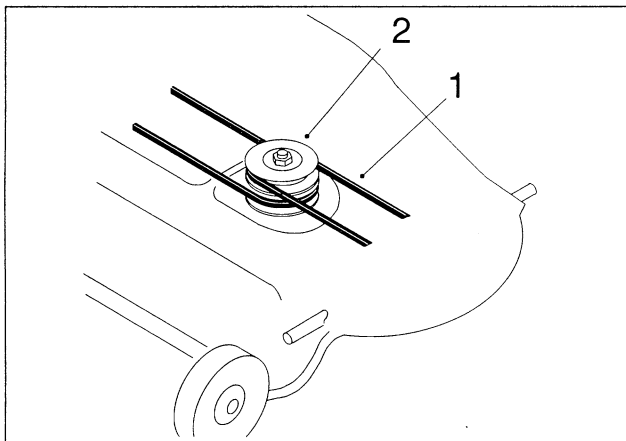

Figure 4
2. Install the blower belt onto the upper pulley, leaving the other end loose (Fig. 4).